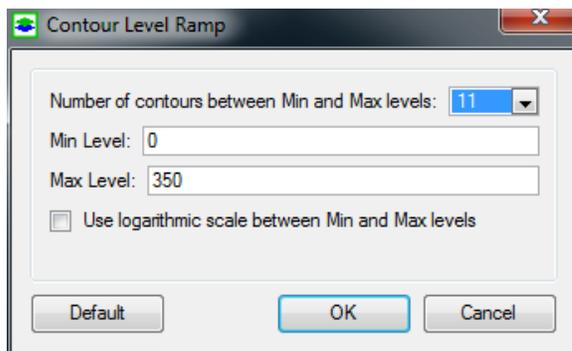

Figure 2.4. The Contour Level Ramp dialog box
- *Level*: Click this button to open the Contour Level Ramp dialog box as shown in Figure 2.4 that can be used to define the range of contour levels and the number of contours. If the values for *Min Level* and *Max Level* are both positive, the option of *Use logarithmic scale between Min and Max Levels* is available. Clicking on the *Default* button will reset the values of *Min Level* and *Max Level* to the values found in the DEM model.